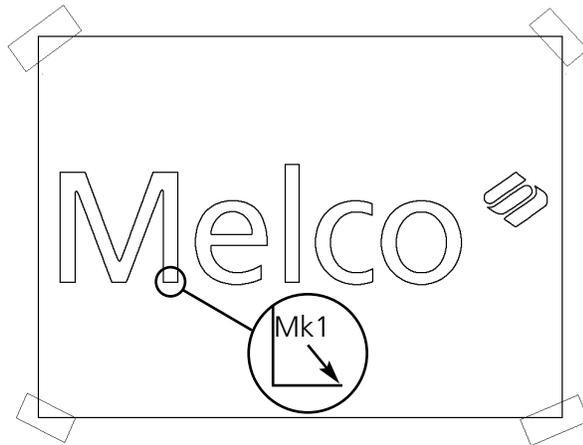

Figure 5-11
3. Click at the location on the displayed image where you want to place a Mk1 to start the design. This identifies the location for the needle entry starting the first stitch. In our example we will enter into the lower area of the right leg of the capital letter **M** (see Figure 5-11).
1. Click on the Normal Stitch tool in the toolbar and note the entry in the stitch list. This will allow a stitch to be generated between the first Mk1 (see Figure 5-11) and the second Mk1 when the second Mk1 is placed.